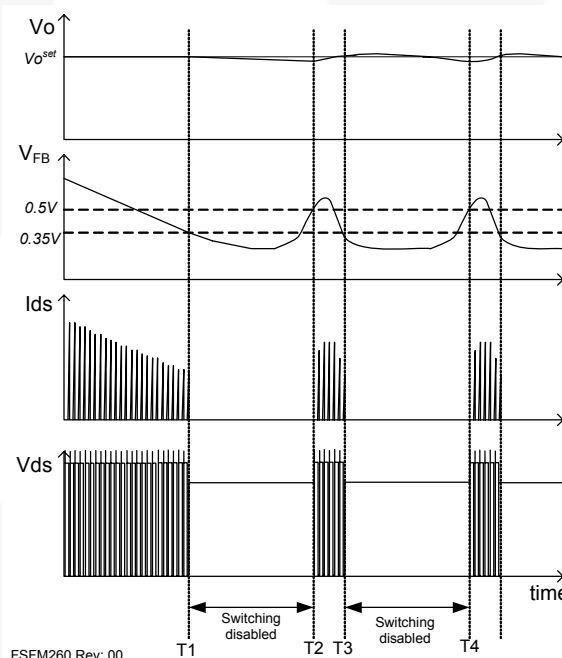

Figure 22. Waveforms of Burst Operation
5. Burst Operation: To minimize power dissipation in standby mode, the FFSM260/261/300 enters burst mode operation. As the load decreases, the feedback voltage decreases. As shown in Figure 22, the device automatically enters burst mode when the feedback voltage drops below V_{BURL} (350mV). At this point, switching stops and the output voltages start to drop at a rate dependent on standby current load. This causes the feedback voltage to rise. Once it passes V_{BURH} (500mV) switching resumes. The feedback voltage then falls and the process repeats. Burst mode operation alternately enables and disables switching of the power SenseFET, thereby reducing switching loss in standby mode.